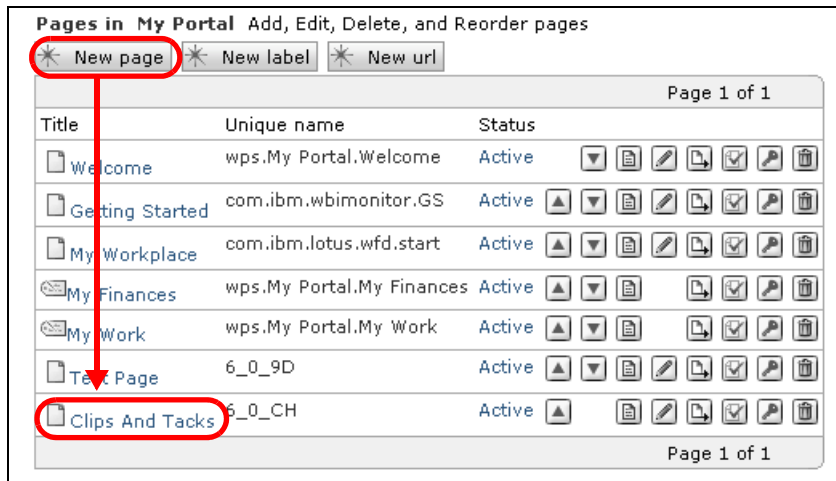

Figure 14-63 Clips And Tacks page
- ▶ The new page should now be listed (Figure 14-63).